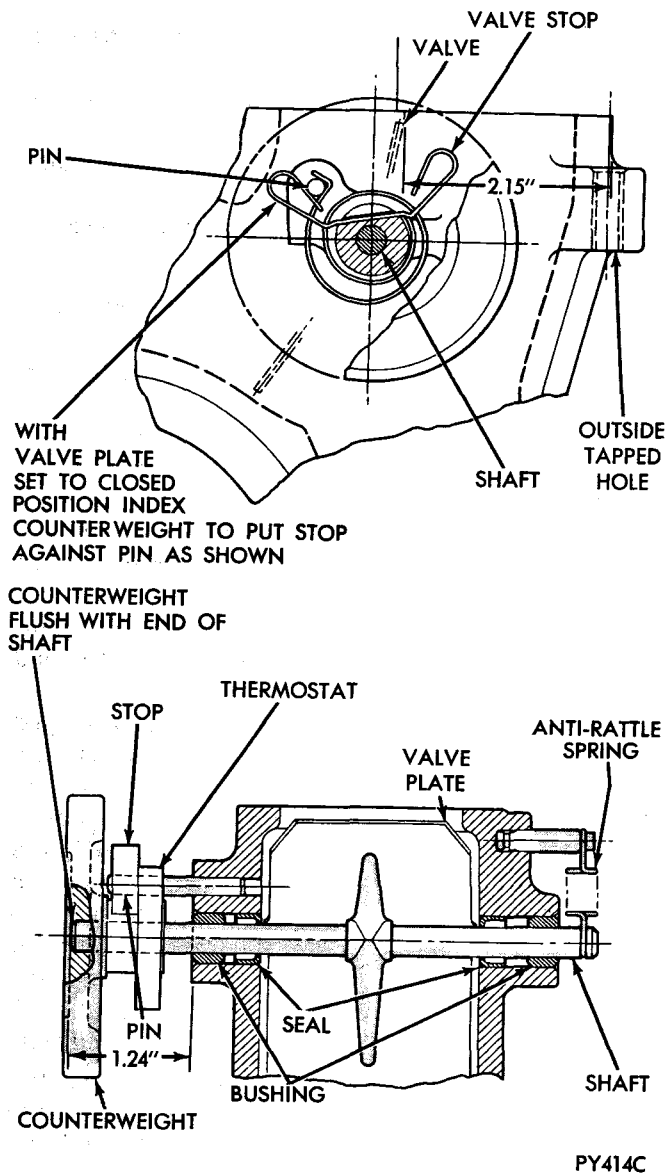

Fig. 10—Proper Manifold Heat Control Valve Installation Six Cylinder Engines
- (1) Position valve plate, grind off spot welds from valve plate and shaft.
- (2) Remove counterweight and shaft assembly, valve plate.
- (3) Press out bushings and cup seals from manifold (Fig. 10).
- (4) Inspect vent holes and clean out if necessary.
- (1) **Press** in cup seals flush with inside walls (Fig. 10) with cupped ends facing outward.
- (2) **Press** in bushings flush with outer edge of exhaust manifold.
- (3) Line ream bushings and seals .3095 to .3110 inch diameter. Test for free fit of shaft in bushings and seals.
- (4) Mark one end of shaft with a suitable dye at 1.240 inches, press counterweight on marked end of shaft until flush with end of shaft.
- (5) Install thermostatic spring on counterweight with center end of tab pointing **right** and outer end or hook pointing **left**.
- (6) Install valve stop on counterweight with looped ends facing away from thermostatic spring hook end.
- (7) Holding thermostatic spring wrapped 215 degrees in a **clockwise** direction viewed from counterweight end, install shaft assembly in manifold and valve plate with strap facing outboard; attach hook end of thermostatic spring to stop pin (Fig. 10).
- (8) With counterweight end of shaft positioned 1.240 inches (previously identified) away from manifold, valve plate centered between seals and positioned 2.05 inches from center of inside tapped hole (intake to exhaust manifold attaching screw) (Fig. 10).
- (9) Arc weld valve plate to shaft with stainless steel rod. **Arc welding ground must be made at counterweight.**
- (10) Test for free operation. Install anti-rattle spring.
- (11) Complete assembly and installation.